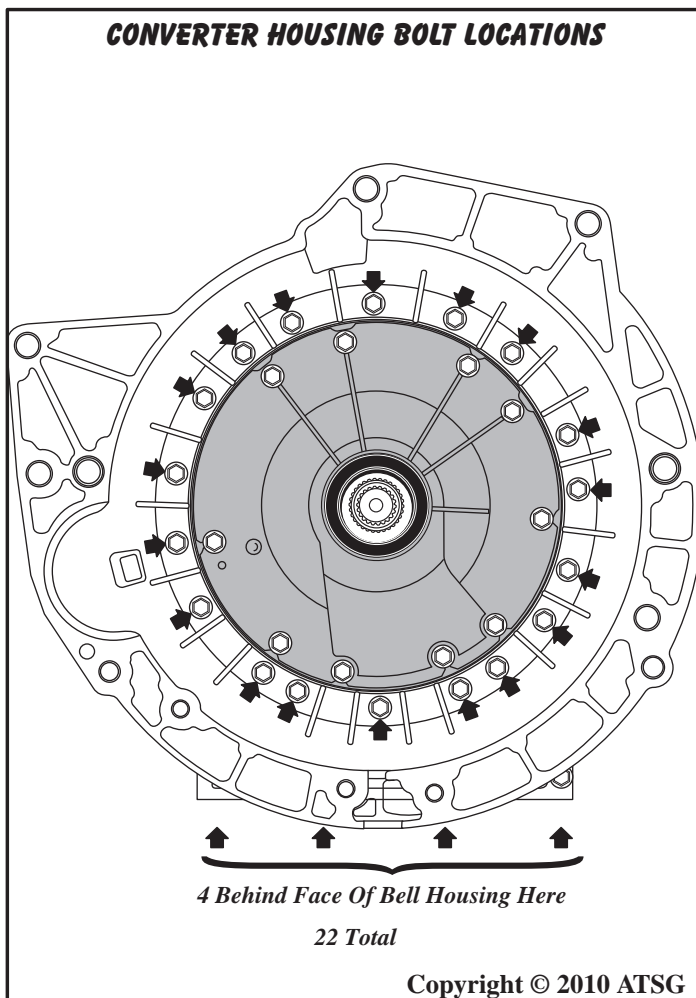

Figure 243
**Note: See Figure 243 for locations.**
**Note: Four of the converter housing bolts are behind the face of housing, as shown in Figure 243.**